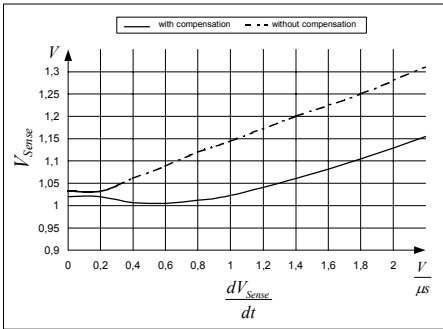

Figure 13 Overcurrent Shutdown
the overshoot dependency on dI/dt of the rising primary current. That means the propagation delay time between exceeding the current sense threshold V_{csth} and the switch off of the external Power Switch is compensated over temperature within a wide range. Current Limiting is now possible in a very accurate way (see Figure 13).
E.g. $I_{peak} = 0.5A$ with $R_{Sense} = 2$. Without Propagation Delay Compensation the current sense threshold is set to a static voltage level $V_{csth} = 1V$. A current ramp of $dI/dt = 0.4A/\mu s$, that means $dV_{Sense}/dt = 0.8V/\mu s$, and a propagation delay time of i.e. $t_{Propagation Delay} = 180ns$ leads then to an I_{peak} overshoot of 12%. By means of propagation delay compensation the overshoot is only about 2% (see Figure 13).